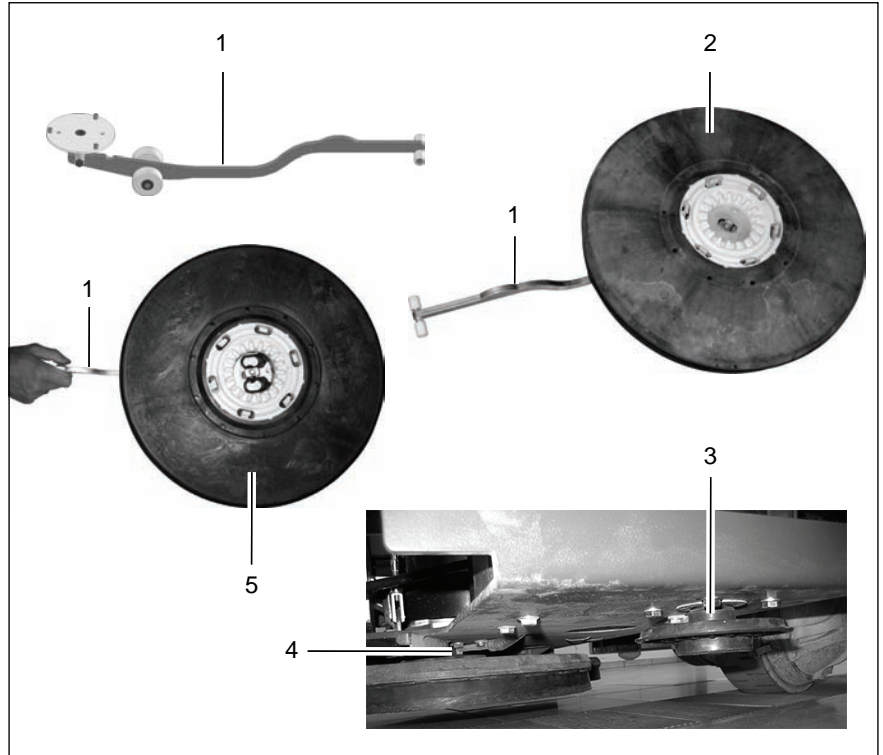
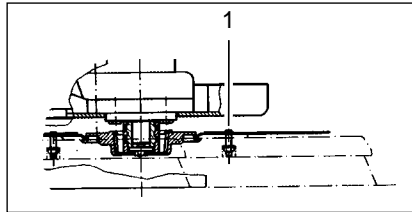

Fig. 7
Fig. 8
3. Position the middle brush (Fig. 7/2) or middle pad (Fig. 7/5) as illustrated in Fig. 7 on the assembly tool (Fig. 7/1).
4. Take hold of the assembly tool (Fig. 7/1) at the narrow end and slide the brush (Fig. 7/2) or pad (Fig. 7/5) under the middle brush catch (Fig. 7/4).
- Force the narrow end of the assembly tool (Fig. 7/1) downwards. As a result of the levering effect, the brush (Fig. 7/2) or pad (Fig. 7/5) is pressed into the brush catch and audibly latches in place.
- Slide the brush (Fig. 7/2) or pad (Fig. 7/5) under the brush head in accordance with Fig. 8.
- Raise the brush (Fig. 7/2) or pad (Fig. 7/5) and turn it slightly until the toothed meshes.
- Pull the brush (Fig. 7/2) or pad
(Fig. 7/5) up until all six hooks latch in the catches.
- Pull the brush (Fig. 7/2) or pad (Fig. 7/5) from the brush head. Or:
- Slide the narrow side of the assembly tool between the brush/pad and brush head and press the wide end of the assembly tool downwards. As a result of the levering effect, the brushes / pads are released from the brush head (Fig. 7/3).